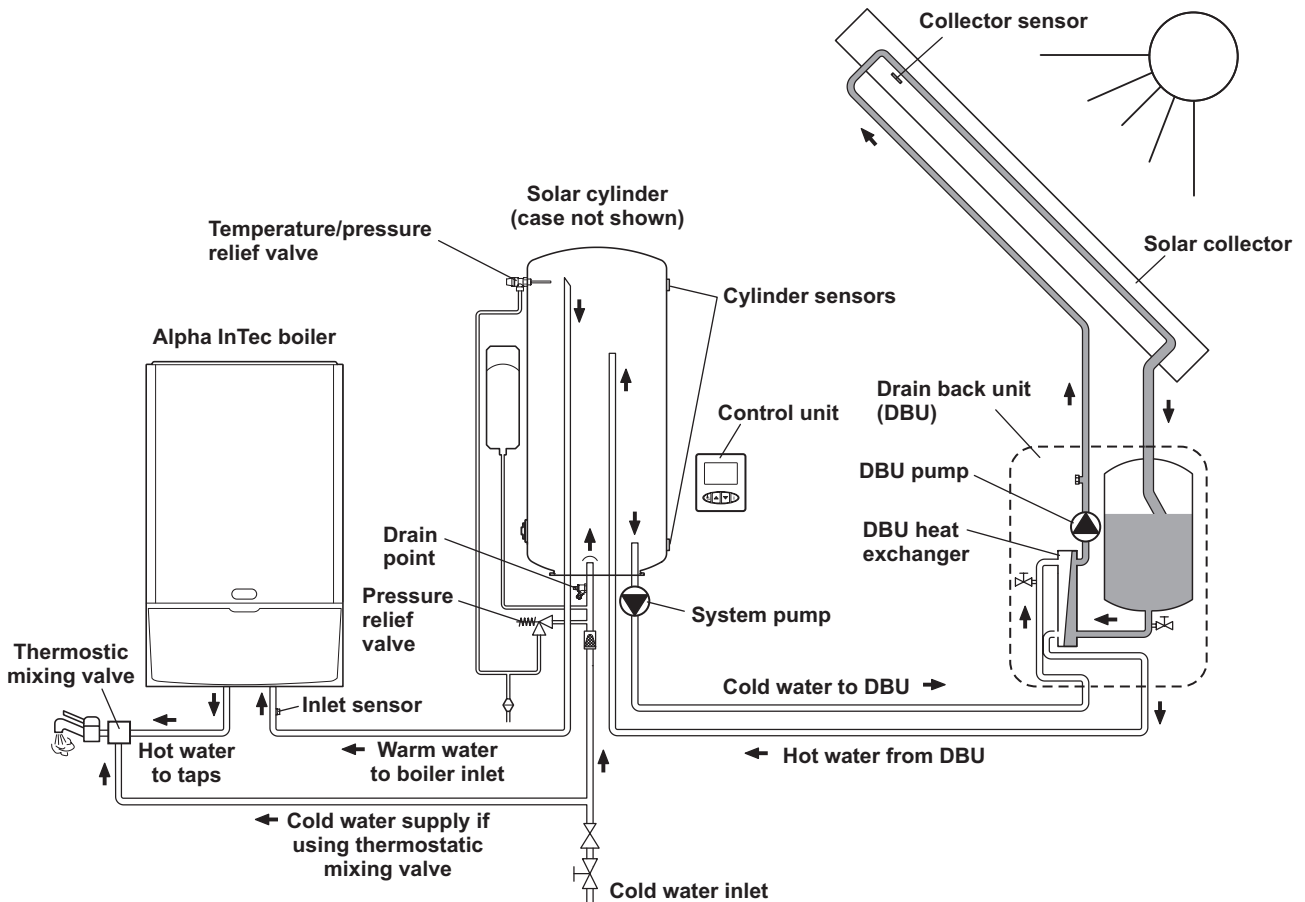

Fig. 26
6.1 WORKING PRINCIPAL - Fig. 26
6.2 OPERATION OF THE SOLARSMART SYSTEM - Fig. 26